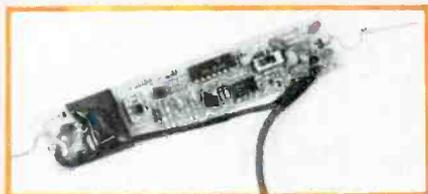

Figure 3.
Figure 3. Diode waveshapes vary according to polarity and TR-1 sensitivity. Left, with 10V/division sensitivity, this angle was produced by a power-supply diode with anode connected to red test lead and cathode connected to the black test lead. The scope is dc coupled, so zero voltage and current are at the center intersection of lines. Right, with 1V/division sensitivity, the waveshape moved to the left and became a broader angle. Positive voltage is on the left; therefore, current did not flow until the peak voltage was about +0.7Vdc. If the diode had been connected with red to cathode and black to anode, the waveshape would have been the same, but it would have appeared in the lower-left quadrant of the CRT screen. Some components have a more distinctive waveshape on high sensitivity; others should be tested on low sensitivity.
- To eliminate interference, the scope ground shield wire needs to be cut as close to the tip as possible (Figure 3). Use heat-shrink tubing on the exposed shield wire.